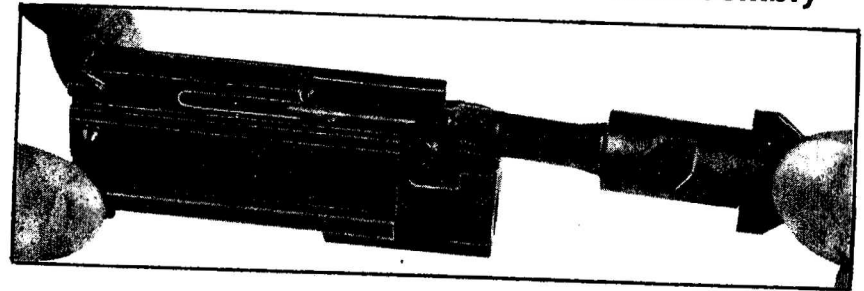

Fig. 42
- grasp bolt-carrier with the left hand; with the right hand withdraw bolt as shown in figure 42; at the end of the stroke, turn clockwise 90° to remove bolt.